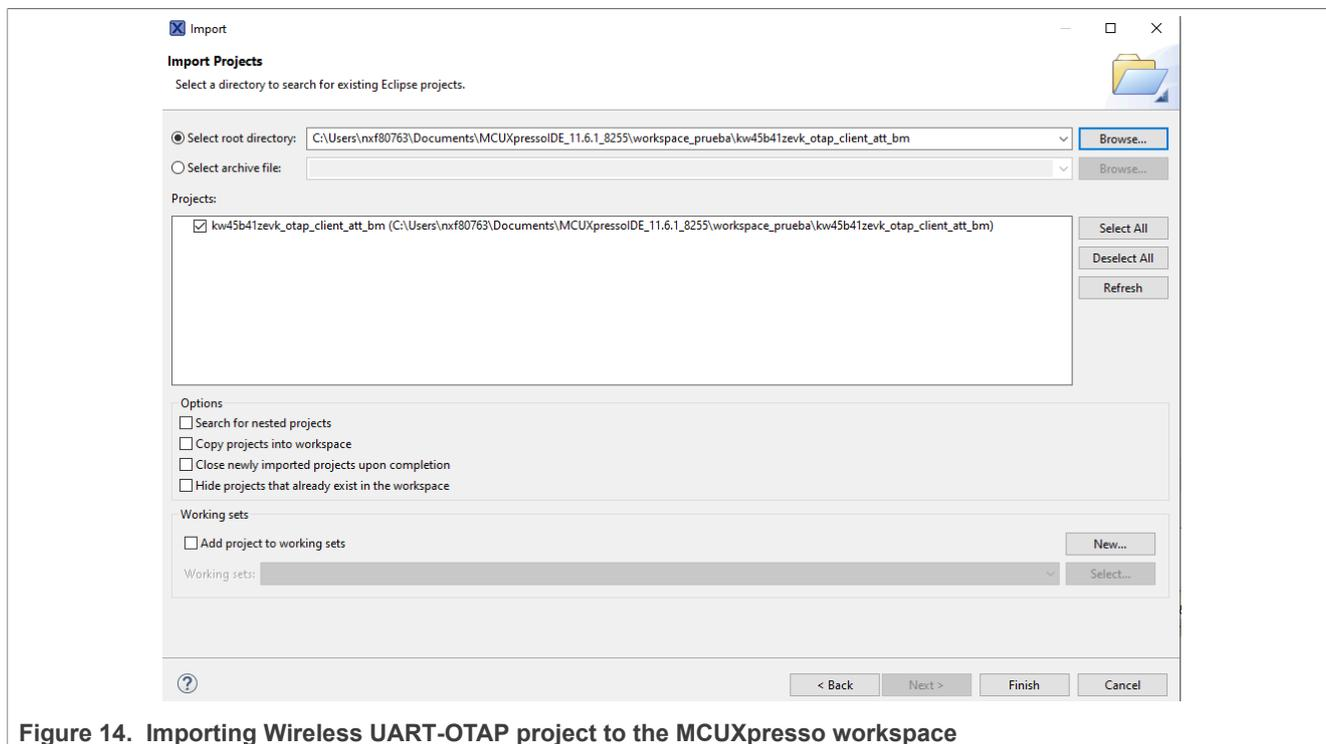

Figure 14. Importing Wireless UART-OTAP project to the MCUXpresso workspace
1. Install the Wireless UART-OTAP demo provided with this document in your MCUXpresso IDE. You can import the project from your installation path to the MCUXpresso workspace as shown in Figure 14.